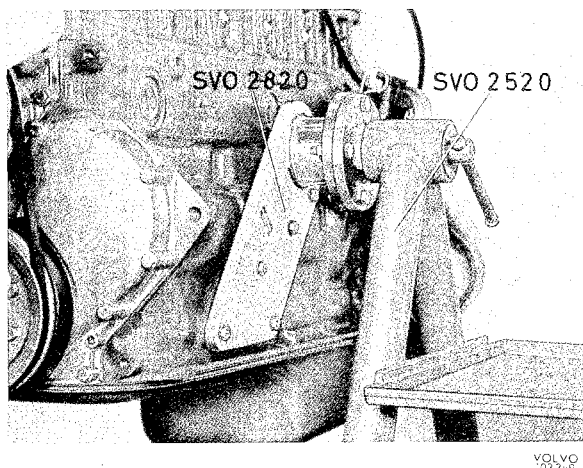

Fig. 2-10. Engine on stand
1. Place the engine on stand 2520 with fixture 2820. See Fig. 2-10. Check to make sure the oil has been drained off.